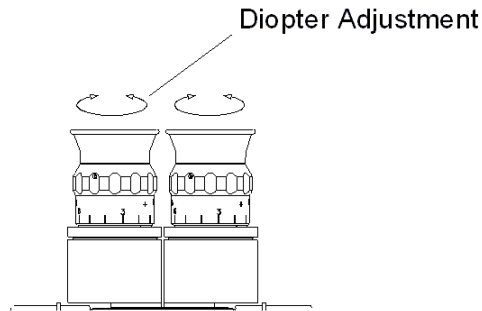

Figure 13: Diopter adjustment
The diopter adjustment can be performed by rotating a ring located below the eyepiece. There is a visible trace to be used as reference mark during this adjustment. Before carry out any adjustment, verify that zero (0) mark on the ring coincides with the fixed reference trace. It is possible to adjust between -6 and $+6$ diopters (Figure 13).